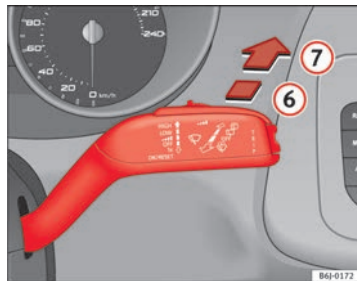

Fig. 66 Windscreen wiper and windscreen wash lever: rear window wiper
- Press the lever forwards to position ⑥ ⇒ fig. 66. The wiper will wipe the window approximately every 6 seconds.
- Press the lever fully forwards to position ⑦ ⇒ fig. 66. The rear wiper and washer operate at the same time. The windscreen wash system will function as long as you hold the lever in this position.